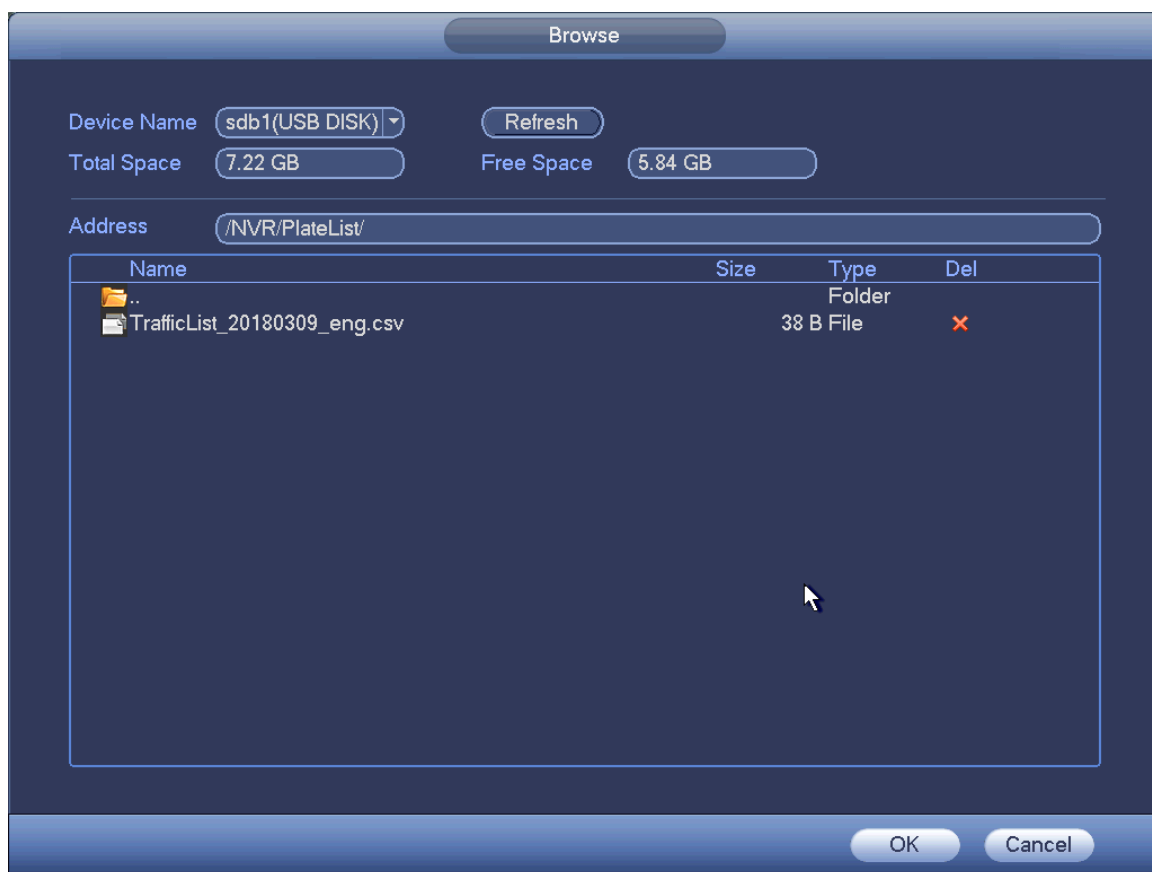

Figure 4-104
- Click . Select Device Name and Address in the Browse interface and click OK to export plate information. See Figure 4-104.